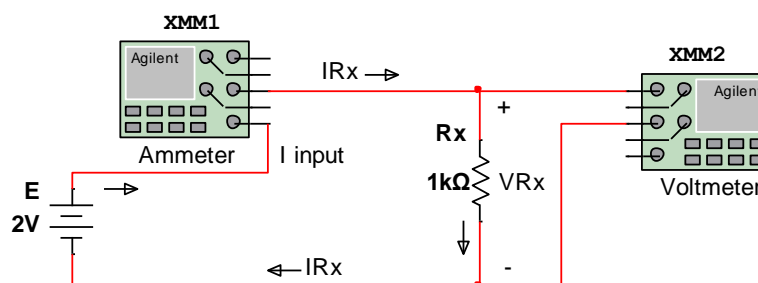

Figure 3. The simple circuit with DMM (DCV) and DMM (DC mA) meters
- f) To wire the circuit as shown in Figure 3: